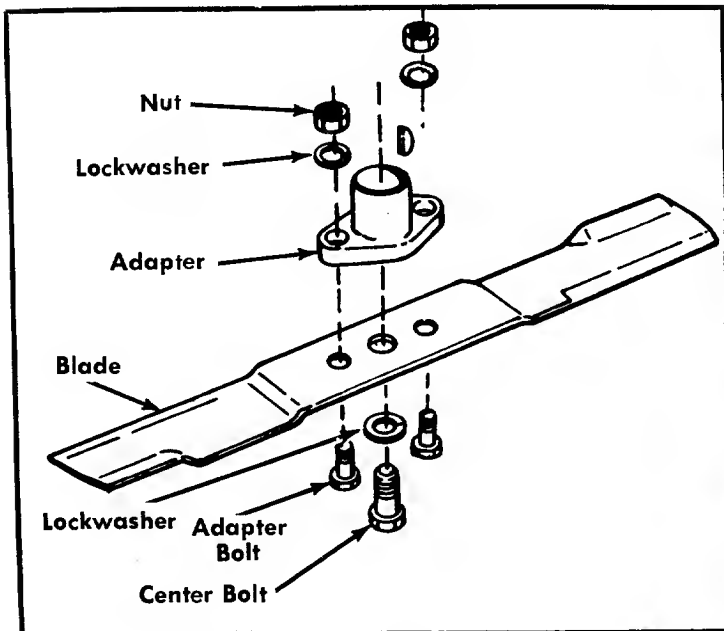

FIGURE 17. BLADE REMOVAL
Step 2. Remove the blade by removing the hex head cap screw in the center of the blade. Hold the blade with one hand and using a $\frac{1}{2}$ " open end, box or adjustable wrench, remove the bolt. See figure 17.
Step 2. Remove the blade by removing the hex head cap screw in the center of the blade. Hold the blade with one hand and using a $\frac{1}{2}$ " open end, box or adjustable wrench, remove the nut. See figure 17.
- Step 5. Lubricate all lubrication points indicated in figure 17; then wipe the entire machine with an oiled rag in order to protect the surfaces.